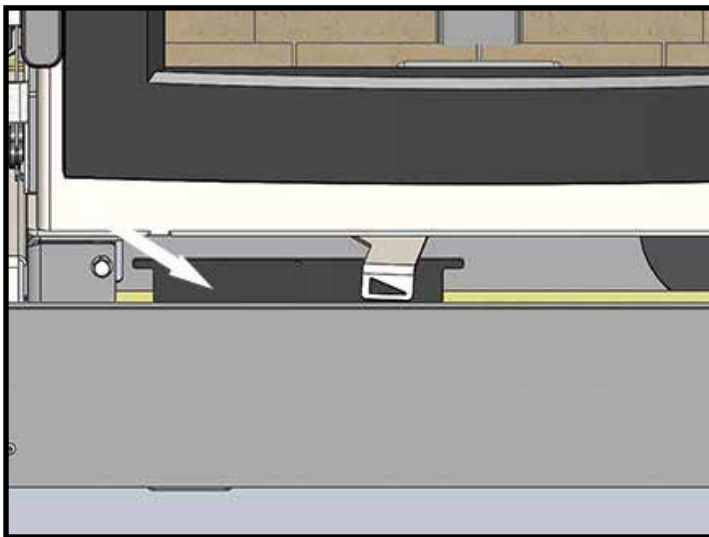

Figure 29: Rating label in place.
2. The rating label plate is located on the front, left side, in the bottom under the firebox (Figure 29). It is attached to the unit by a stainless steel cable.